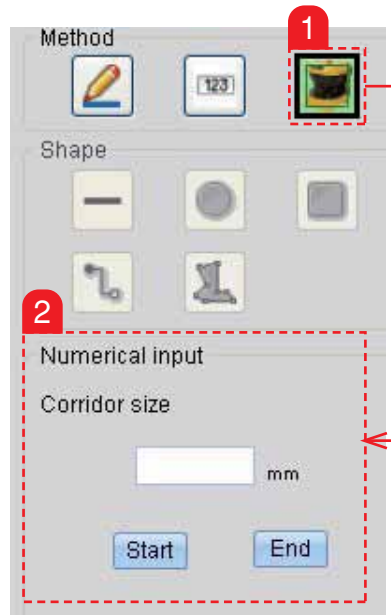

Figure 7-42. Teaching parameter
- Key-in the respective parameters, corridor size. (Figure 7-42).